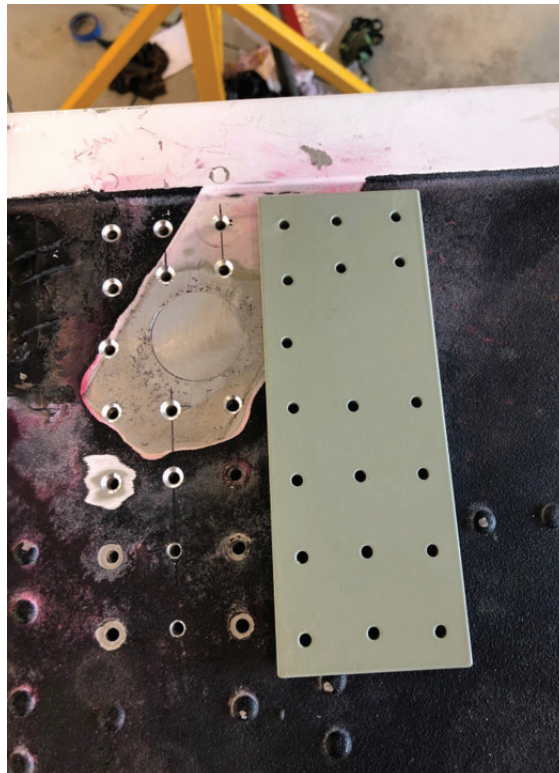

Figure 4 - Doubler Hole Pattern
- b. Match rivet pattern in top skin and add holes in top skin as needed using Figure 4 as a guide. Prime the doubler after holes are located.